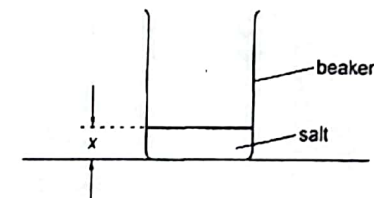

Fig 1.1
- (a) You have been provided with a beaker labelled P containing 100g of salt as shown in Fig. 1.1.